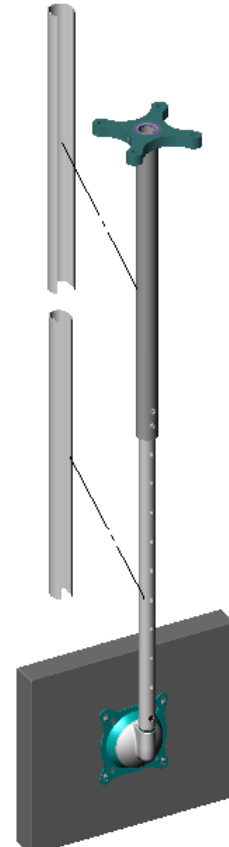

Figure 5. Install Cable Cover
2. Install top cable cover over cables (see Figure 5).